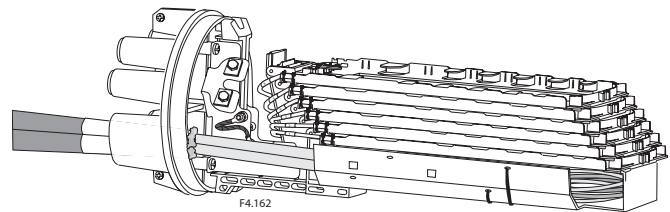

Figure 5
- Create intertray jumpers as directed in the FOSC 400 D5 closure installation instructions to route the ribbons from the ribbon router to the upper splice organizer trays for splicing. (Figure 5)